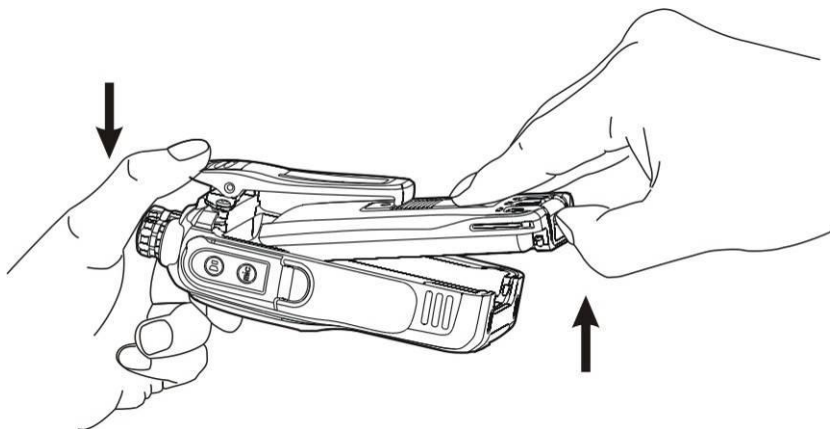

Figure 4
2. When the bottom of battery is lifted, release the battery latch and take out from the battery slot. (see figure 4 below)